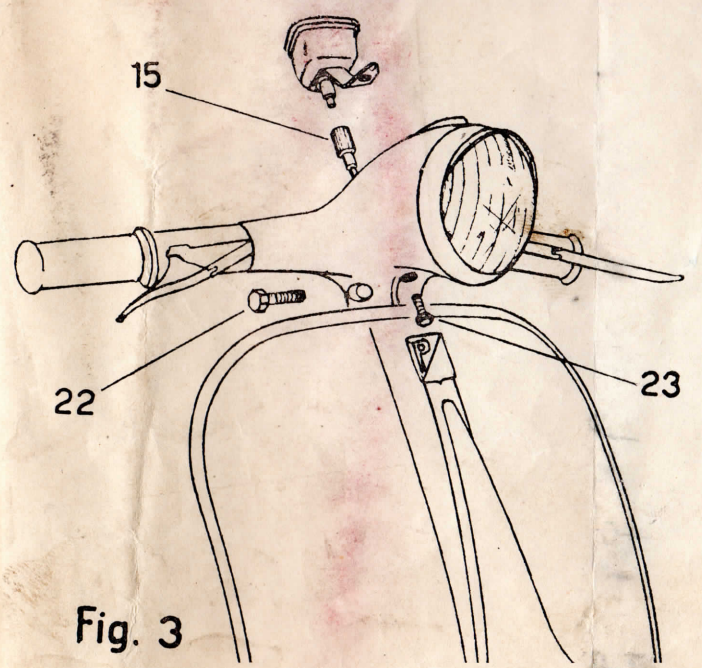

Fig. 3
b) - By inspection align the handlebars in a plane parallel to a line drawn through the front axle, then tighten the bolt (Fig. 3, No. 22) to secure the handlebars firmly.